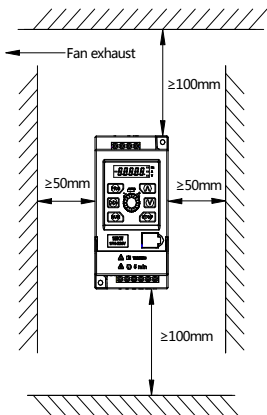

Figure 2-1 Installation Interval Diagram
- (1) Generally, vertical installation shall be adopted.
- (2) Minimum installation intervals and distances are shown in Figure 2-1.